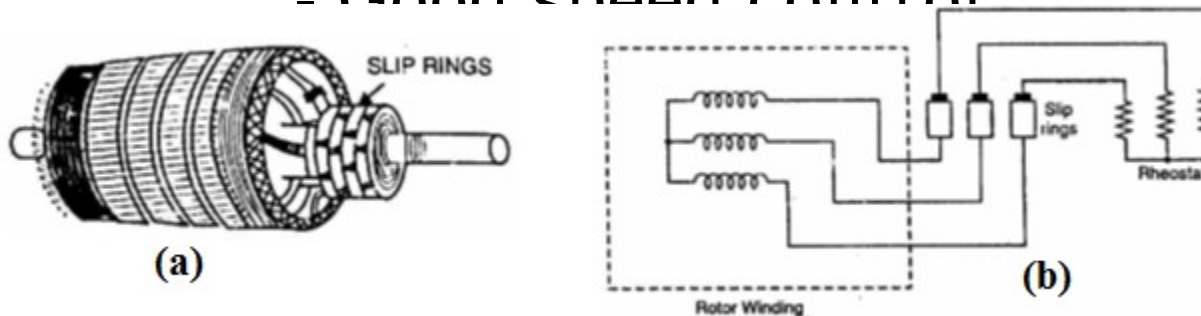

Figure 3-2 Wound rotor
- ❖ The three brushes are connected to a 3-phase star-connected rheostat as shown in Fig. 3-2 (b).